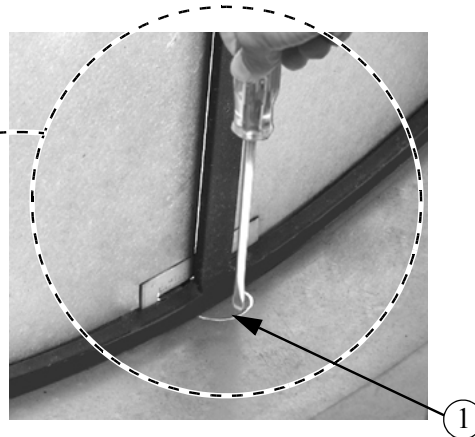

Figure 30. Use screw driver to push Drain Tab out
To install the Door in the Cone you must first identify the bottom of the Cone and the Door Assembly. The bottom of the Cone has a C-shaped Drain Tab in it. (See Figure 30). The bottom of the Door Assembly can be identified by a drain hole in the Ring (See Figure 12). Line up the Four Holes in the Door Ring with the holes in the Cone and thread (4) 5/16 x 1.25" Bolts in until they are tight. Do not install Nuts at this time. These Bolts will be used later to attach the Cone Brackets to the Cone Assembly.